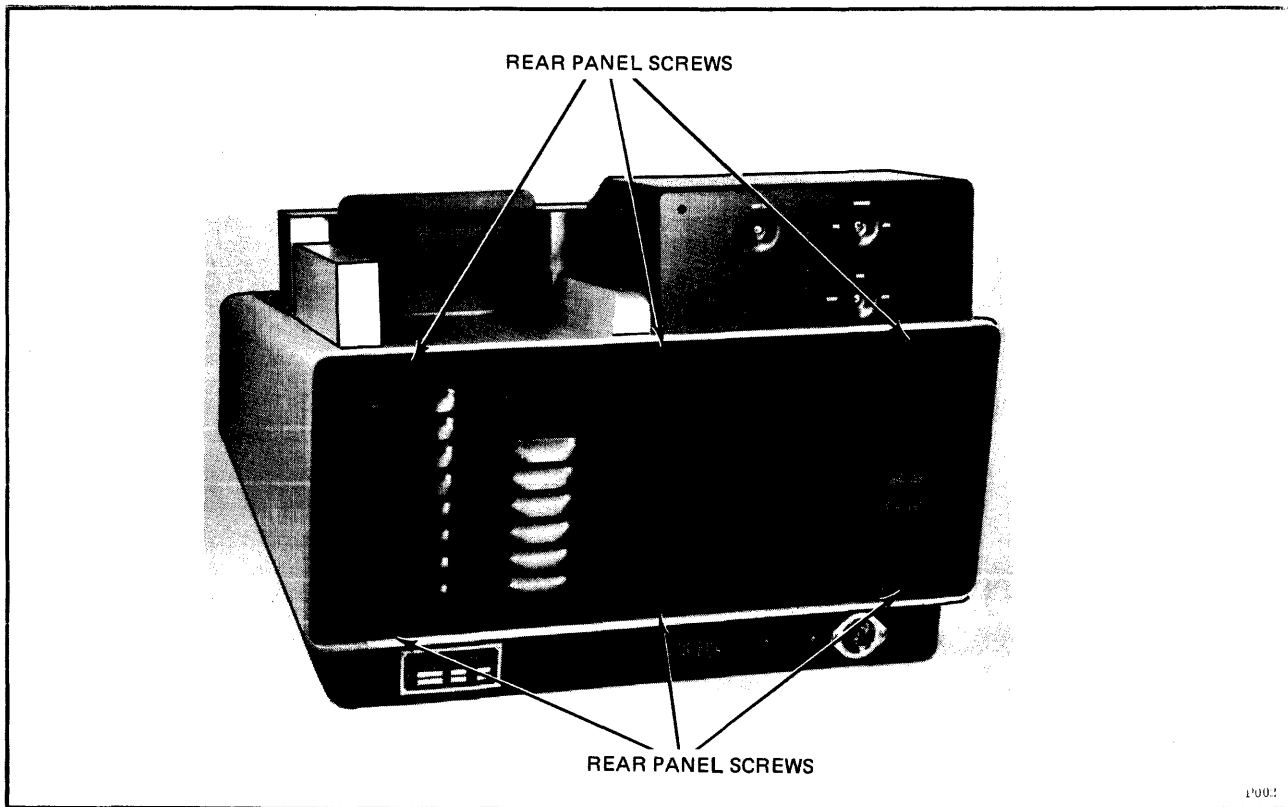

Figure 6-2. Rear Panel Removal
- c. Remove six screws which hold rear panel, Figure 6-2.